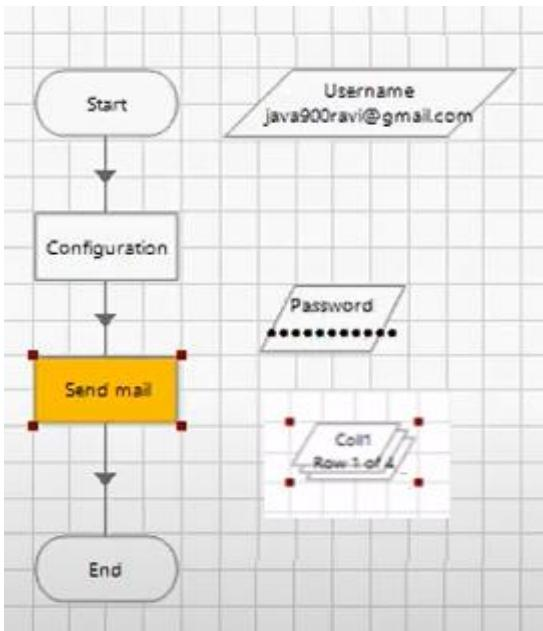

Figure 8: Final flow chart diagram of Process.
Step 6: Now Link all the stages as shown in Figure 8 and save the Process and run it manually. Once Process ran successfully, Blue Prism will connect to Gmail server with the details provided in both actions and send email with attachments.